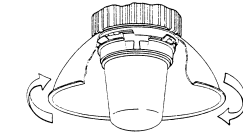

FIGURE 4
2. Rotate reflector clockwise so that the three tabs slide under captivated bosses on adapter ring. See figure 4.